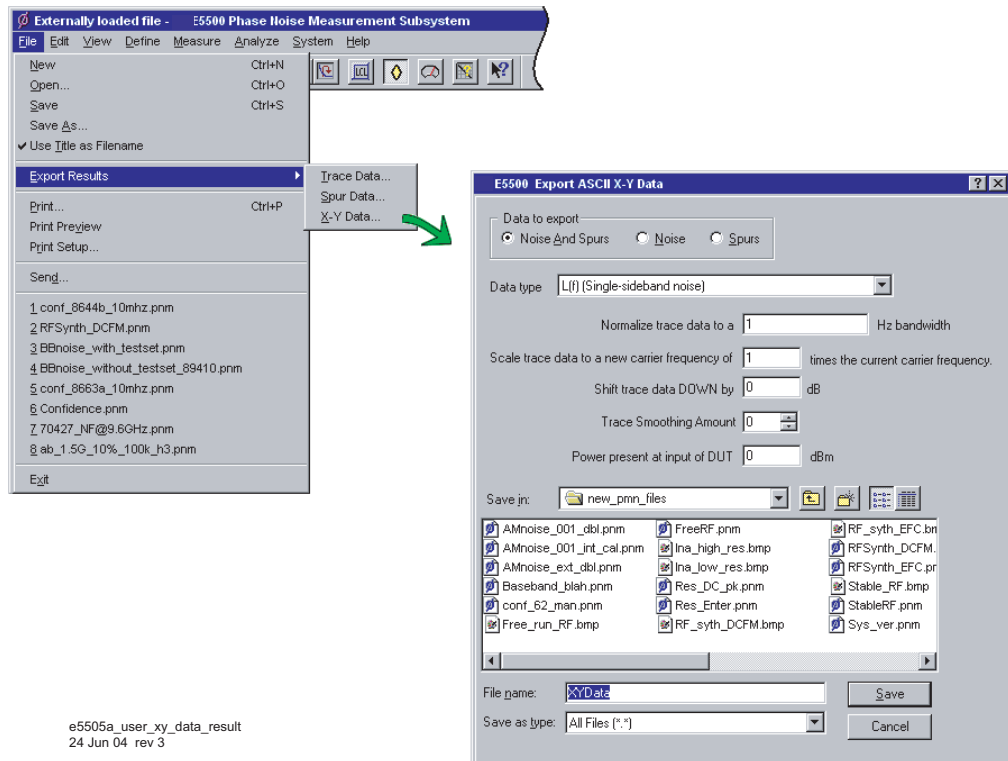

Figure 70 X-Y data results
- 1 On the **File** menu, point to **Export Results**, then click on **X-Y Data**. See Figure 70.